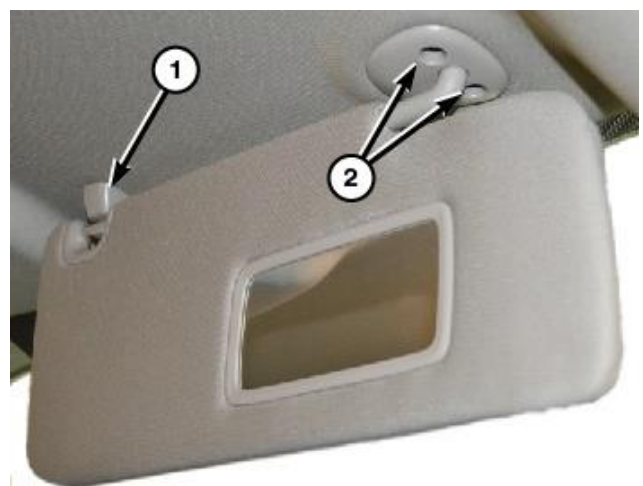

Figure 2 – Visors
3. Separate the visor from the support (1) then remove the screw and remove the visor support (Figure 2).